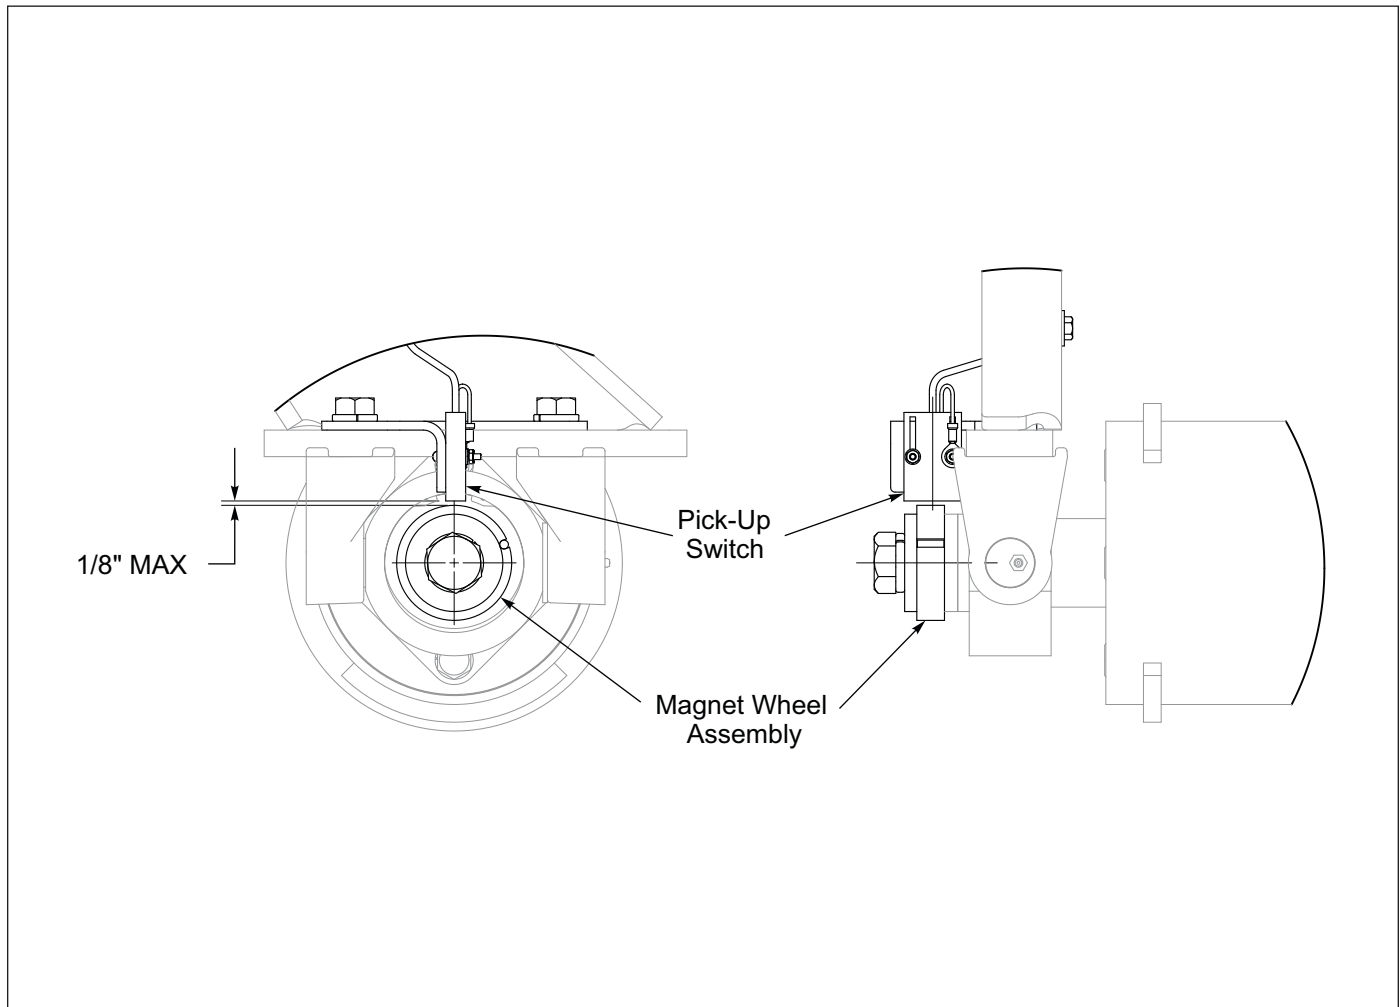

Figure 2-24: Pick-Up Switch Side View
1. Place the Wing Rollers on level ground. From the front of the Wing Frame Tube, assemble the 5/8-11 U-Bolts over the wing frame tube and through the Wing Scraper Brackets with Locknuts. **See Figure 2-24.** Do not tighten.
5. Adjust the Acre Meter Switch so the center line of Magnet Wheel and Pick-Up Switch are horizontally and vertically aligned with a maximum 1/8" between Magnet Wheel and Pick-Up Switch. Now firmly tighten all screws. **See Figure 2-24.**